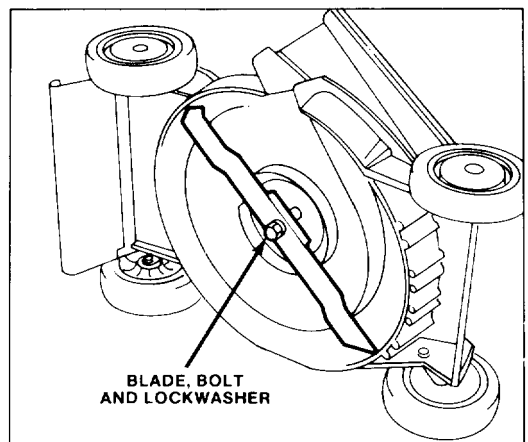

Figure 14
3. Tip mower on its left side (Fig. 14).
5. REMOVING BLADE — Grasp end of blade using rag or thickly padded glove. Remove blade bolt, lockwasher and blade (Fig. 14).